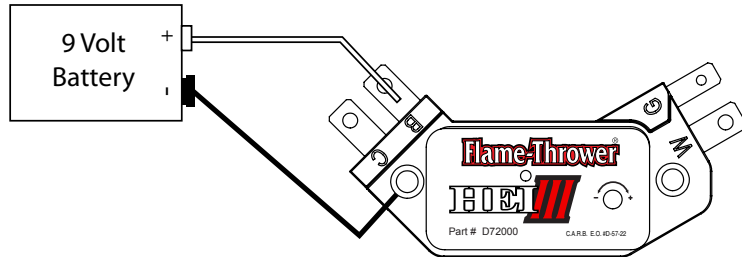

Figure 2
2. In order to set the rev limiter, the module must have 12V power, but the car must not be running. This can be done with the module in the car, by turning the key "ON" (engine off). Or it can be done with the module out of the car, by providing 9V or 12V to the terminal labeled "B", and attaching a ground to the mounting hole on the side of the module. See Figure 2.